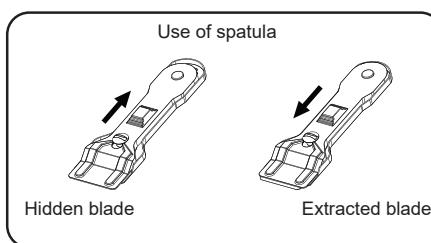

Fig. 2
**Once you are done with the spatula, retract the blade and lock it. (See Fig. 2)**